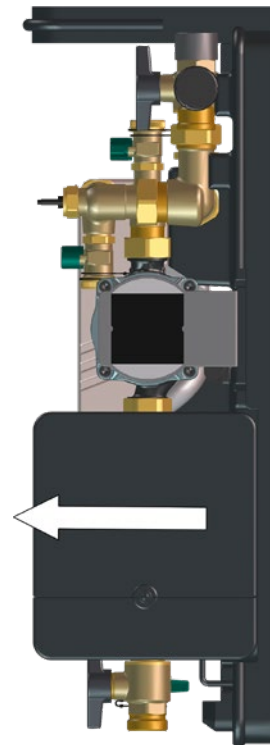

Fig. 27: Removal of the controller from the lower shell
- 2 Carefully pull the controller off the lower shell as shown in Fig. 27 on page 41.